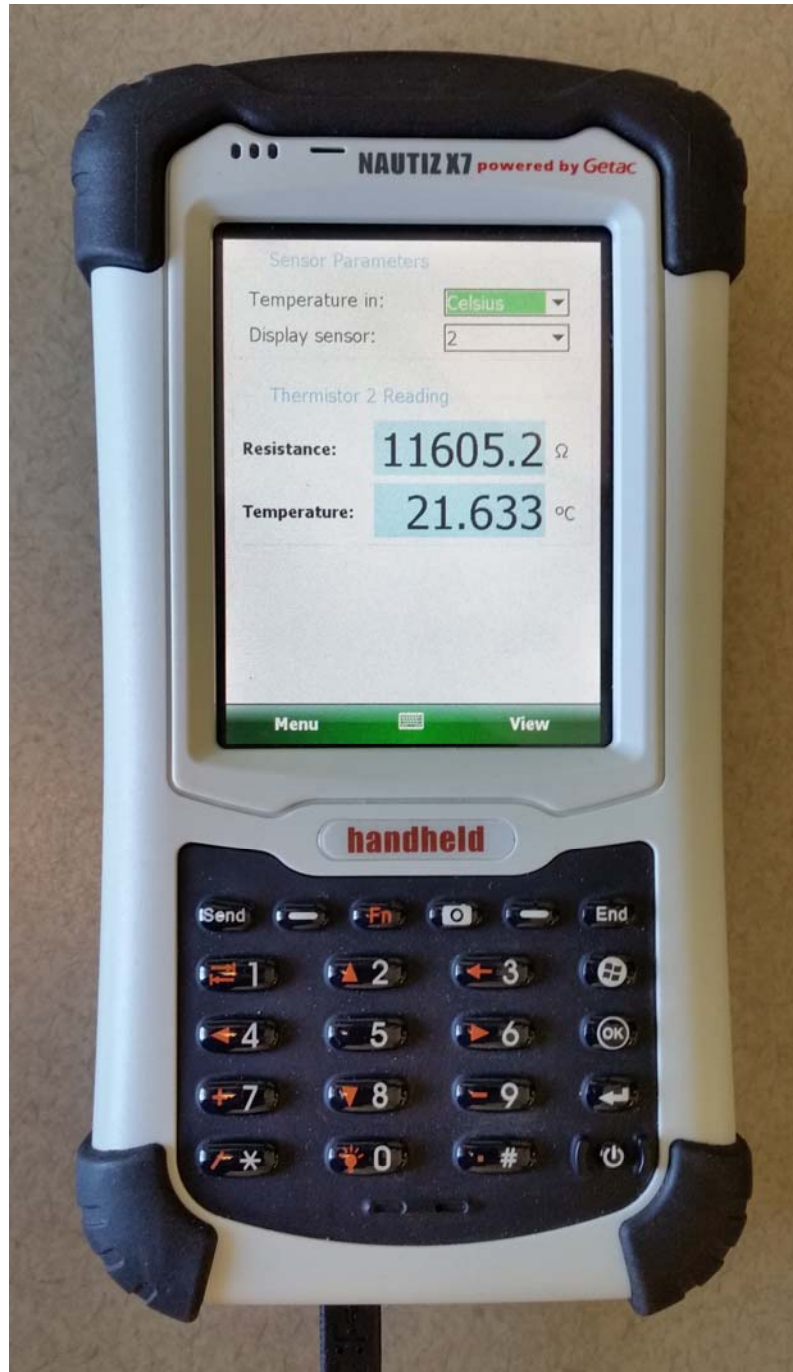

Figure 3 - Hand-held PC running Addressable Thermistor String Reader
- The Readout Unit, consisting of a Windows Mobile handheld PC running the Addressable Thermistor String Reader Application (see Figure 3).
The Addressable Thermistor Reader Application (the “App”) installs and runs on a ruggedized hand-held PC (see Figure 3) and is designed to communicate via a USB to RS-485 converter to an addressable string of thermistors.